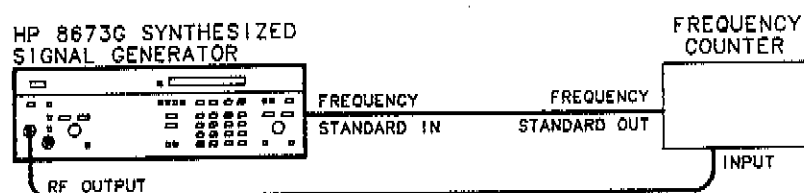

Figure 4-1. Frequency Range and Resolution Test Setup
1. Connect the equipment as shown in Figure 4-1. Set the Signal Generator rear panel **FREQ STANDARD INT/EXT** switch to **EXT**. Remove the **FREQ STANDARD** jumper and connect **A3J10** to the 10 MHz frequency standard output of the frequency counter. With the Signal Generator and the frequency counter sharing a common timebase, the frequency counter should agree with the Signal Generator **FREQUENCY MHz** display ± 1 count with any selected frequency counter resolution.